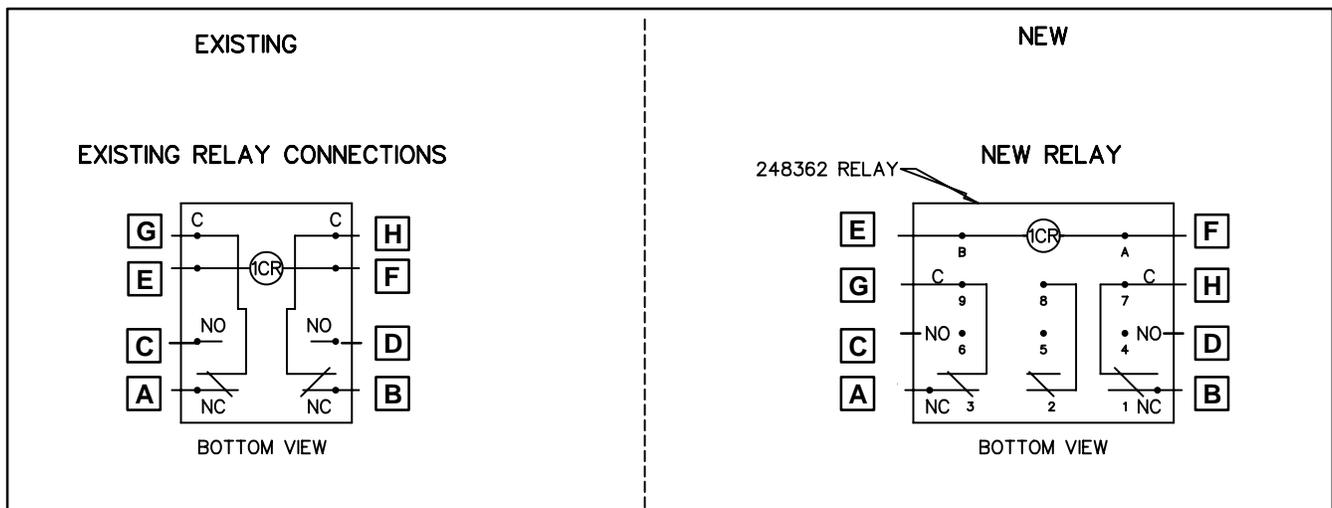

Figure 2. Wiring Diagram for CR, 1CR, and 2CR Relay
3. Examine existing CR, 1CR, or 2CR relay and compare to the illustration in Figure 2.
9. Connect controller leads to relay using wiring diagram found in Figure 2.